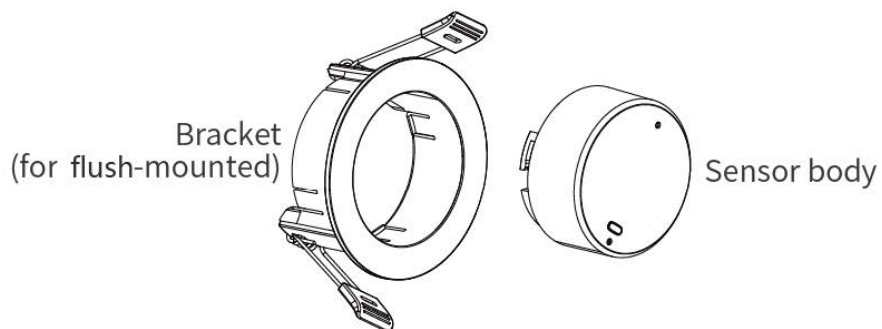

Figure 3
- **Note:** When installing, make sure to select the suitable bracket based on your specific requirements, as shown in Figures 3 & 4.c